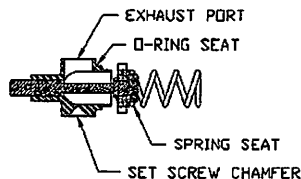

FIG. 1
4. Place the new o-ring on the new valve body. It should seat into the small groove on the o-ring seat. SEE FIG 1 for location. Lightly oil the O-ring. Use Extreme-Lube from AKALMP throughout your paintball marker. (I have used it for over 7 years without a single problem or freeze up.)
5. Apply a thick, high pressure grease (We use Valvoline SynPower synthetic grease) to fill the small groove at the front of the valve stem. The valve comes from the factory with the grease groove pre-filled. Whenever you disassemble the valve, re-fill the groove. Lightly oil the cup seal and stem with Extreme-Lube, then slide the valve together. Place a yellow Nelson valve spring on the back of the cup seal. SEE FIG 1. DO NOT CLIP THE SPRING. (For more spring info, see Best Reported Setup.)
6. Place valve in the marker with a valve removal tool (don't modify the valve) with exhaust port up and the set screw chamfer showing in the set screw hole. SEE FIG 1. Using the new set screw that came with the valve, place set screw in the marker body and gently tighten down. Now, alternately tighten the jam nut and set screw until both are tight. Do not over-tighten. This alternating tightening action will help keep the valve body straight inside the bore. Now re-assemble the hammer with a yellow Nelson hammer spring. DO NOT CLIP THE SPRING ENDS. This spring setting works well. (See Best Reported Setup.) You may need to re-time the trigger once the marker is reassembled. The timing for a low pressure marker should be a little more conservative than most high pressure markers.